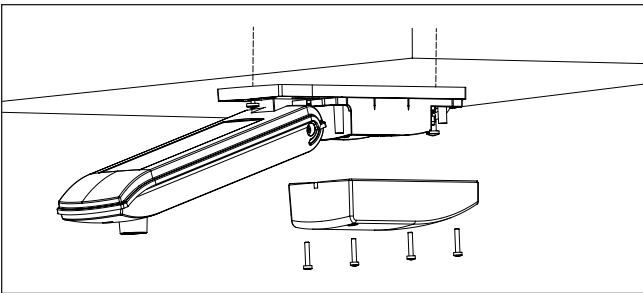

Fig. 5 Ceiling installation
- Attach the weather station to a suitable substructure using the included screws and dowels as shown (Fig. 5).